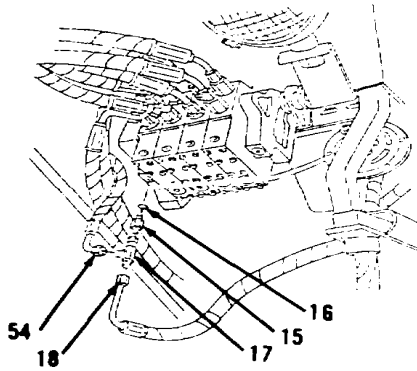

Figure 10-159.
12. Disconnect tee (17) from connector (15, Figure 10-159) under front, left of cab.
13. Remove connector (15) and preformed packing (16). Discard preformed packing (16).
14. Disconnect hose assemblies (18 and 54) from tee (17).
15. Remove tee (17).